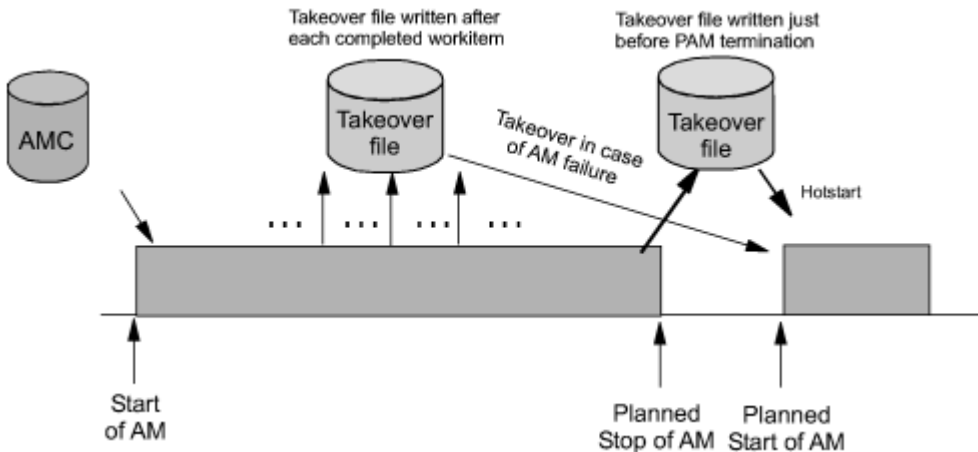

Figure 3. Using Only the Takeover File for Status Backup
Figure 3 on page 29 illustrates the timeline from the start of the automation manager (AM) through to its termination for the following cases: